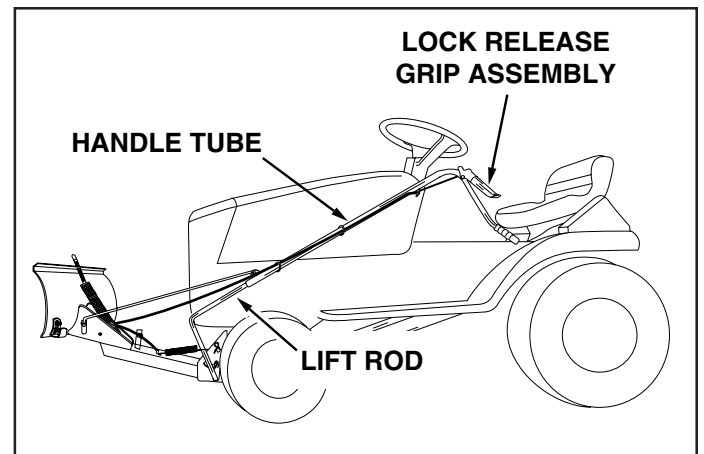

FIGURE 22
- Raise blade to transport position. Push the lock release grip down against the handle tube to unlock the blade. To pivot the blade, keep the grip depressed and push forward or pull back on the handle tube sliding it along the lift rod. Release the grip to lock the blade when it is in either the right hand, the left hand or the straight ahead position. See figure 22.